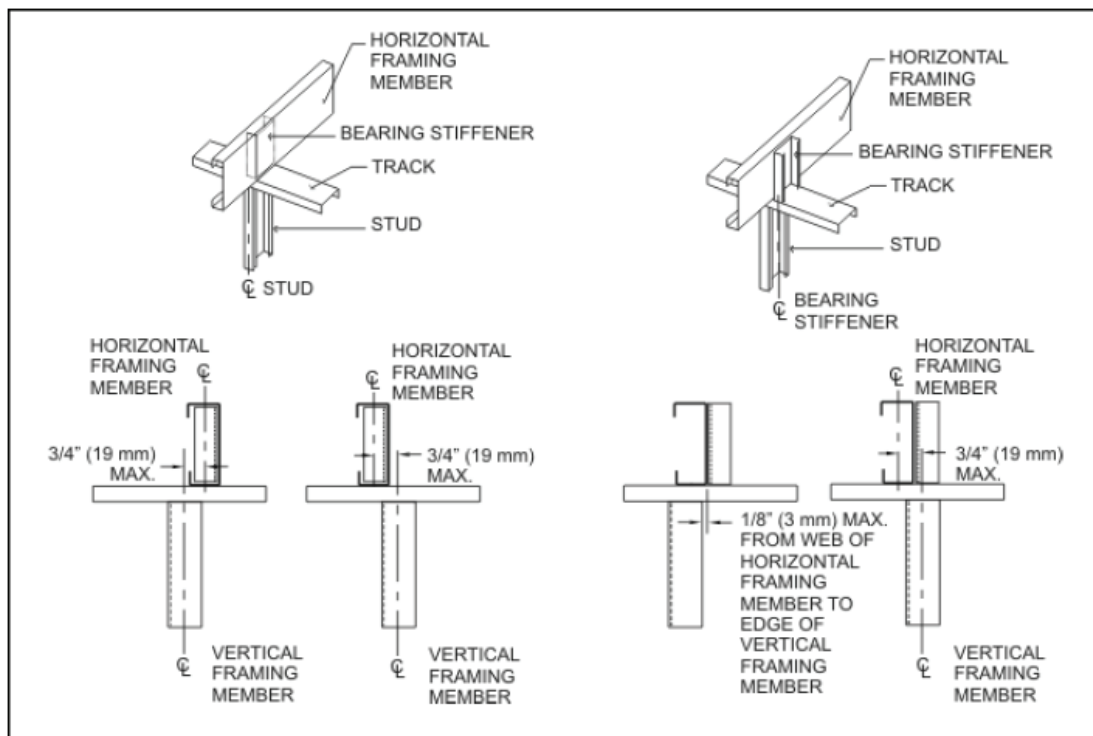

Figure B1.2.3-1 In-Line Framing
- i. If bearing on a steel stud wall, joists must align with support studs below, unless a load distribution member (LDM) has been designed. See North American Standard for Cold-Formed Steel Structural Framing (AIS S240) section B 1.2.3 for alignment framing requirements. Figure B1.2.3-1 (below) details the alignment requirements based on joist and stud orientation and web stiffener placement.